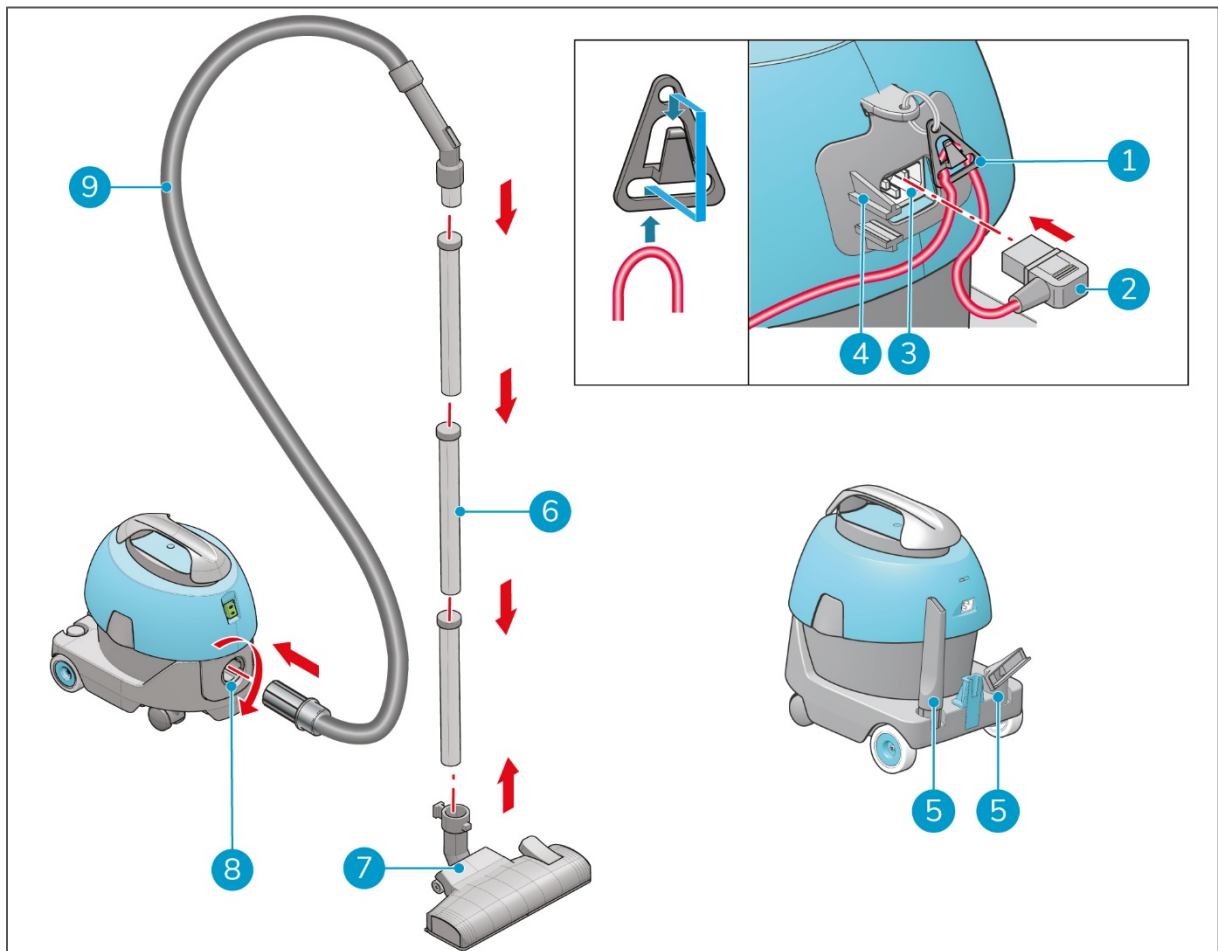

Figure 7
1. Place the main power cable in the cable strain relief (Figure 7, pos 1), at a cable length of approximately 10 to 12 centimeters from the machine.
2. Place the main power cable plug (Figure 7, pos 2) into the connector (Figure 7, pos 3).
3. Place the main power cable plug into the clamp (Figure 7, pos 4).
4. Insert the hose (Figure 7, pos 9) into the hose intake (Figure 7, pos 8).
6. Insert the hose into the wand (Figure 7, pos 6).
7. Attach the desired tool (Figure 7, pos 7) on the narrow end of the wand.
8. Place the unused tools onto the brackets (Figure 7, pos 5).